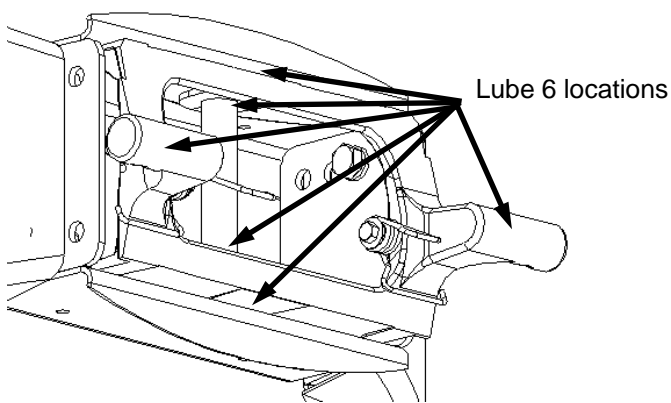

Figure 14
9. Lube center section as shown in **Figure 14** with lithium grease.